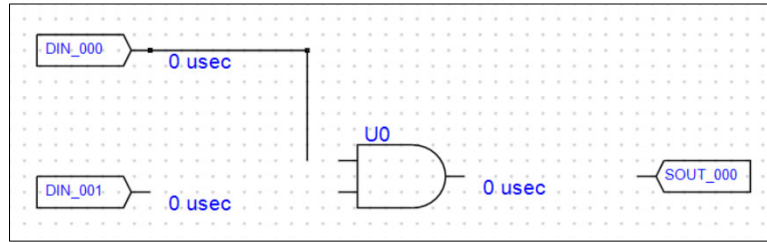

Figure 84 - Finish 2nd Segment
- 4) Finish this segment by releasing the mouse button (Figure 84 - Finish 2nd Segment).